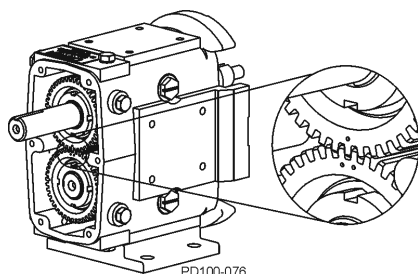

Figure 58 - Timing Gear Marks
3. Slide the short shaft gear onto the short shaft. The short shaft gear has two punch marks on the gear. Straddle the single punch mark of the spur drive gear with the two punch marks on the short shaft gear (Figure 58).